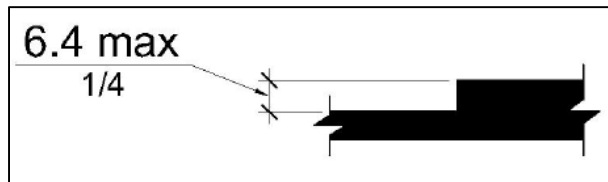

Figure 12 - Vertical Discontinuities
- Vertical surface discontinuities in the clear space do not exceed 0.25 in (see **Figure 12**). *PROWAG R302.7.2*
- Vertical surface discontinuities do not exceed 0.25 in. (see **Figure 12**). *PROWAG R302.7.2*